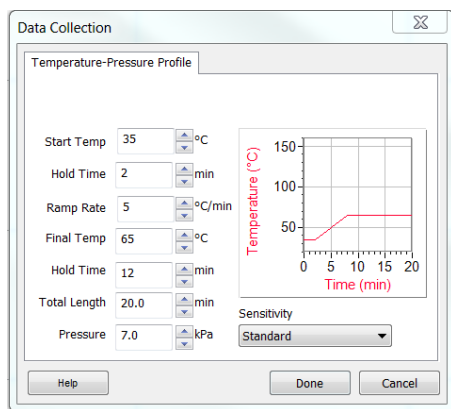

Figure 1 Temperature-Pressure
- d. Click Collect in Logger *Pro* or tap  in LabQuest 2 or LabQuest, to bring up the Temperature-Pressure profile, similar to Figure 1.